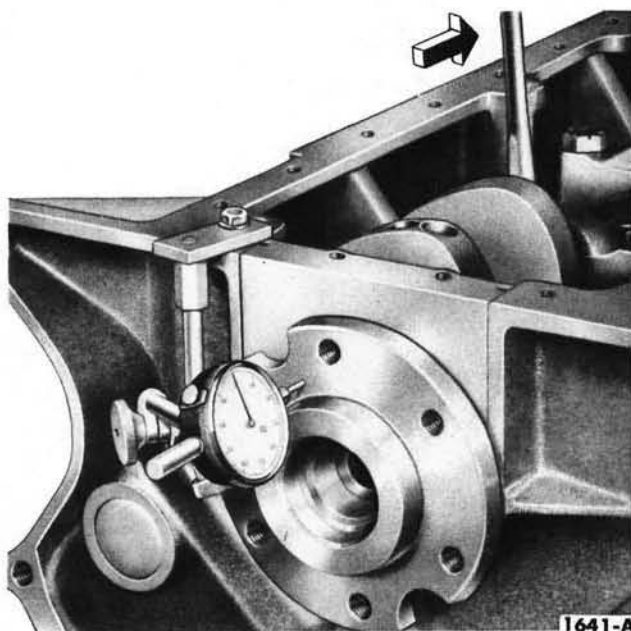

FIG. 44—Crankshaft End Play
5. Force the crankshaft toward the rear of the engine. Install a dial indicator so the contact point rests against the crankshaft flange and the indicator axis is parallel to the crankshaft axis (Fig. 44). Set the dial on zero, then push the crankshaft forward and note the reading on the dial.